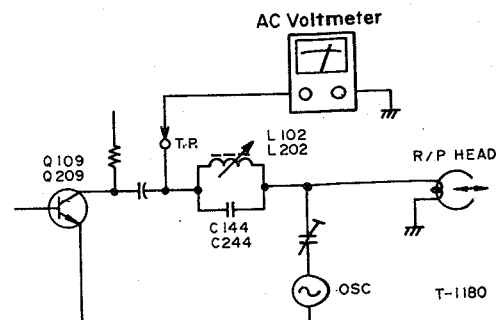

Fig. 6-9 Bias Trap Adjustment Setup
3. Adjust L102/202 for a minimum reading at BIAS TRAP test points and ground. See Fig. 6-9.